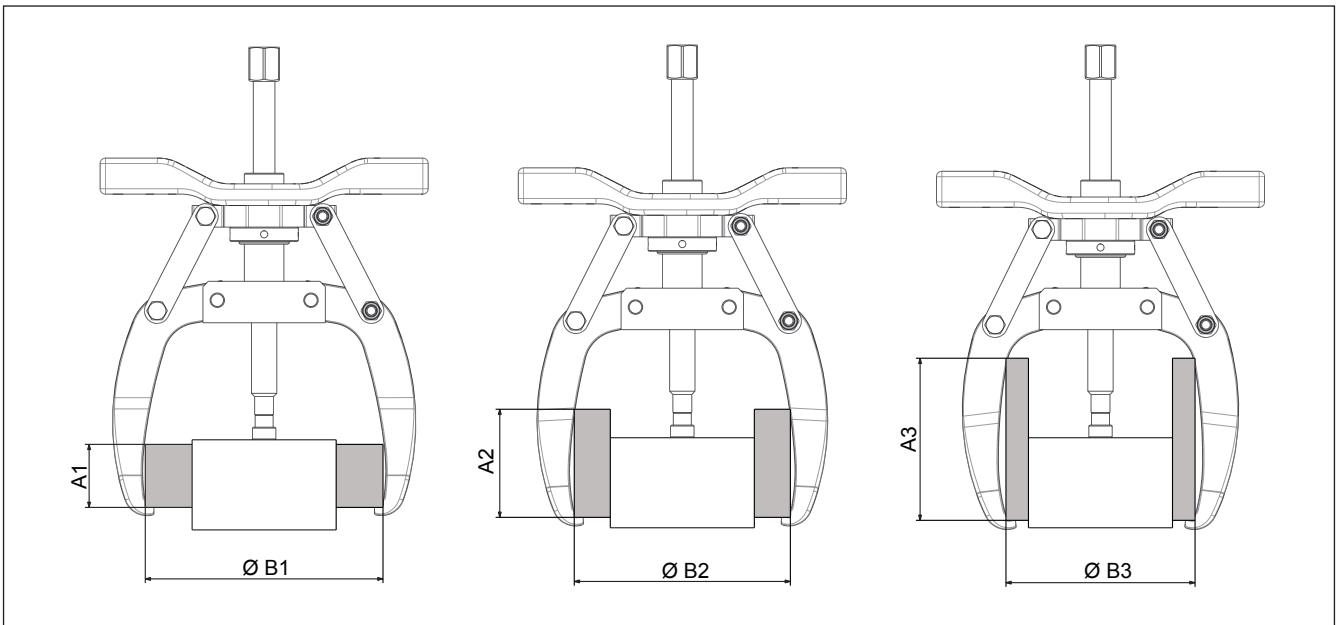

Figure 6, Puller Maximum Reach and Spread
- When installing the puller on the workpiece, refer to the maximum reach and spread dimensions contained in Figure 6. Following these important guidelines will reduce the amount of jaw and spindle deflection in the event of great force.
NOTICE The spindle and the jaws must engage the workpiece, and achieve at least the minimum reach and spread indicated in figure 6. If additional reach is required, a spacer may be applied. place an appropriately sized spacer between the point protector and the workpiece during step 3.